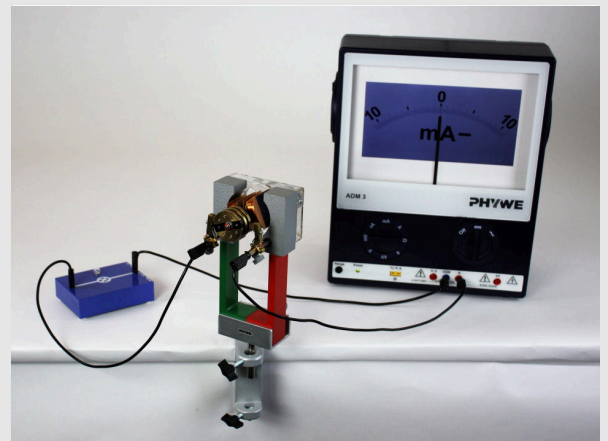

Fig. 5
- Set up the experiment according to Fig. 5.